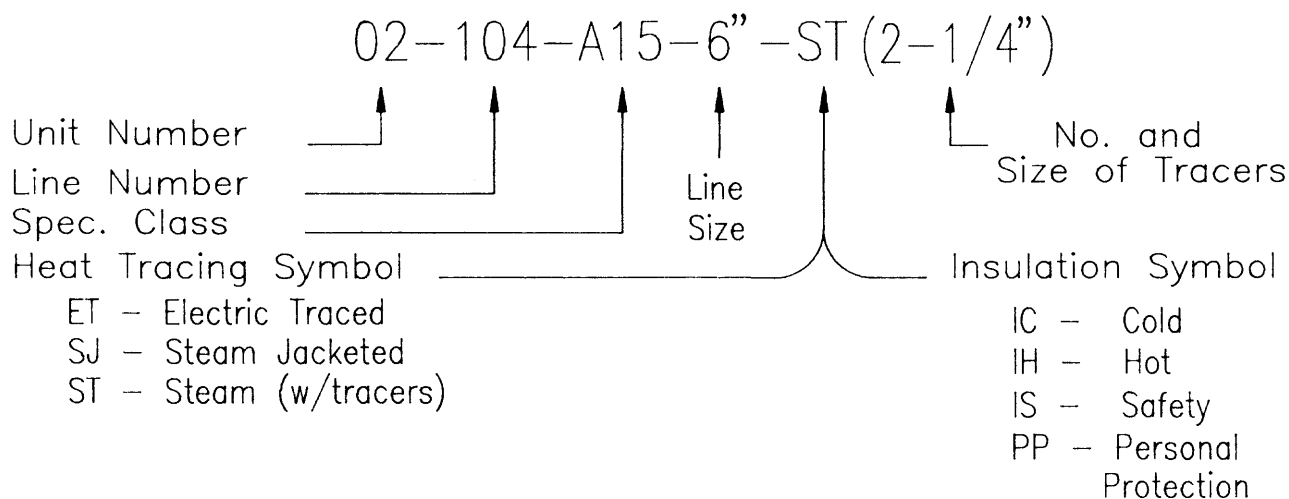

Figure 8-1. Line number.
6.5 Flow arrows will indicate flow direction of each line. Line numbers shall be assigned to each pipe line. A typical line number is shown in Figure 8-1.